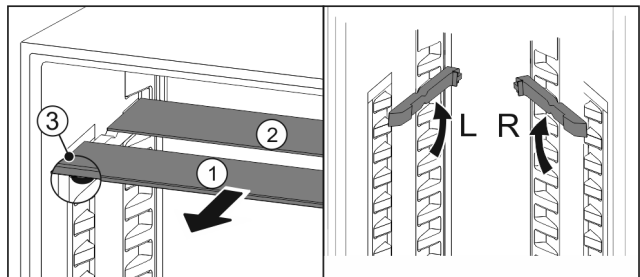

Fig. 76
- ▶ Pull the glass panels out Fig. 76 (1) from the front, one at a time.
- ▶ The glass panel Fig. 76 (1) and trim strip are at the front.
- ▶ The stops Fig. 76 (3) point down.